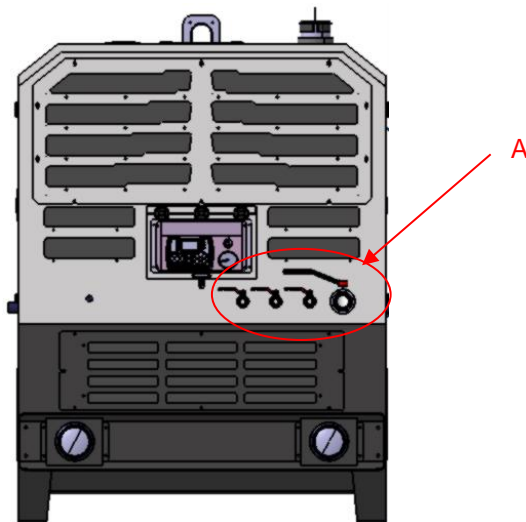

Figure 10.2-1 Location of the taps
3. Gradually open the air valve (Letter A in Figure 10.2-1);
5. Release the lock-nut (1).
6. Tighten the regulation screw (2) to increase the pressure to the desired value.
7. Loosen the regulation screw (2) to reduce the pressure to the desired value
8. Tighten the lock nut (1) and close the cocks.